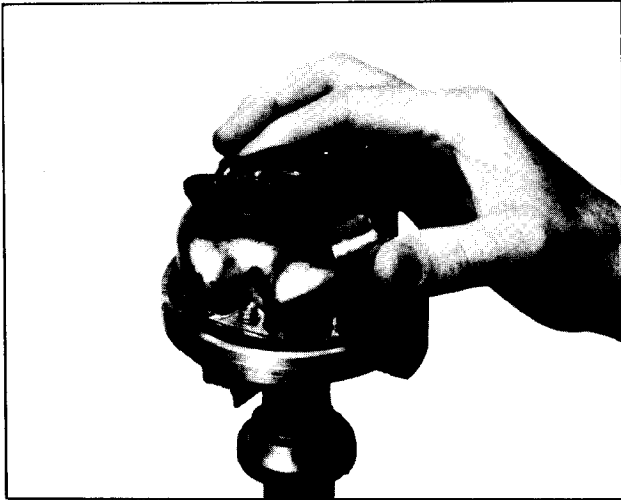

Figure 39—Installing Point Shield
4. Place one-half of shield over contact points, Figure 39, align screw hole, install and firmly tighten screw. Make sure wire terminals are not touching shield.